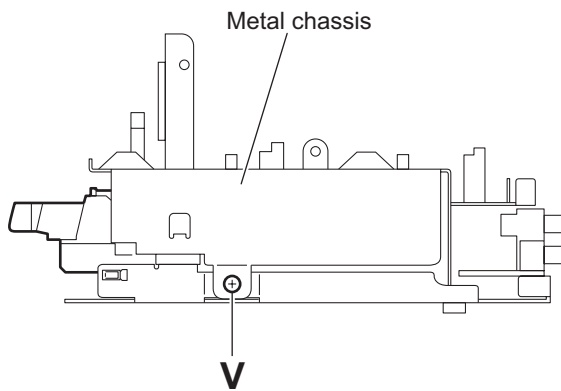

Fig.25
(1) From the top side of the main body, remove the two screws **U** and take out the video board in the direction of the arrow.
(2) Disconnect the card wire from the connector **CN703** on the video board.
3.1.12 Removing the DVD mechanism assembly (See Figs.25 to 28)
- From the right side of the main body, remove the screw **V** attaching the metal chassis. (See Fig.25.)